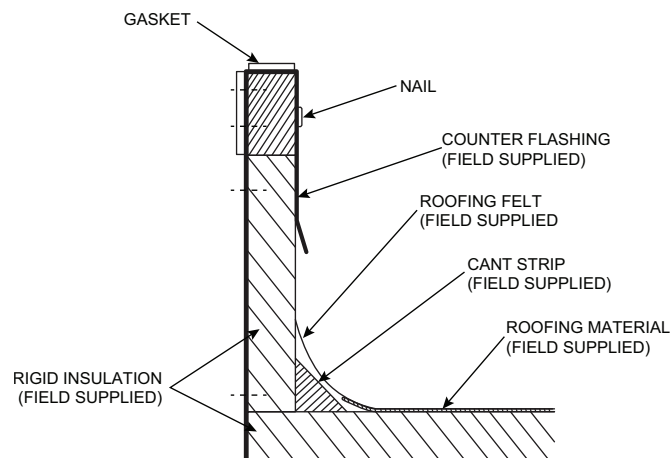

Fig. 5 — Roof Curb Weather Proofing (Flashing Roof-in Method Shown)
6. Roof-in curb as shown in Fig. 5 or other approved method.
8. Install provided gasket on top of roof curb around outer perimeter and around duct openings in curb. Gasket strips must fit tightly together to leave no gaps for leakage. See Fig. 5.